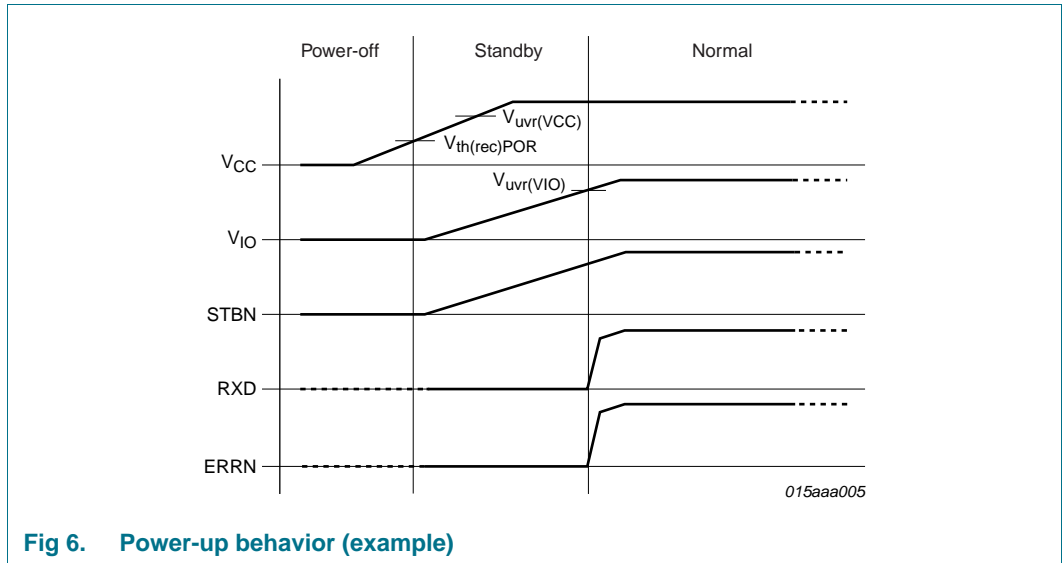
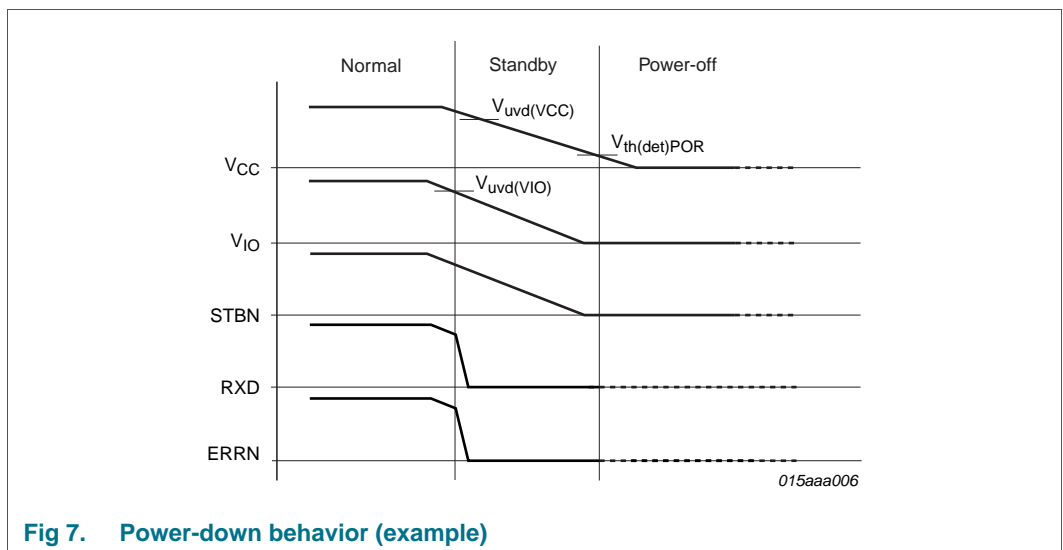

Fig 6. Power-up behavior (example)
Fig 7. Power-down behavior (example)
- [6] $V_{CC} < V_{th(rec)POR}$ at power-up and $V_{CC} < V_{th(det)POR}$ at power-down (see Figure 6 and Figure 7).
As an example, Figure 6 shows one possible power supply ramp-up scenario. The digital section of the TJA1082 is supplied by V_{CC} . The voltage on pin V_{CC} ramps up before the voltage on pin V_{IO} . As long as the voltage on V_{CC} remains below the power-on reset recovery threshold, $V_{th(rec)POR}$, the internal state machine is not active and the transceiver is totally passive, remaining in Power-off mode. As soon as the voltage crosses the $V_{th(rec)POR}$ threshold, the internal state machine starts running, setting the PWON flag and switching the TJA1082 to Standby mode. This initializes the V_{CC} and V_{IO} under-voltage flags to the set state (since both V_{CC} and V_{IO} are actually in undervoltage state just after power-on).
The behavior of the TJA1082 during power-down is illustrated in Figure 7.